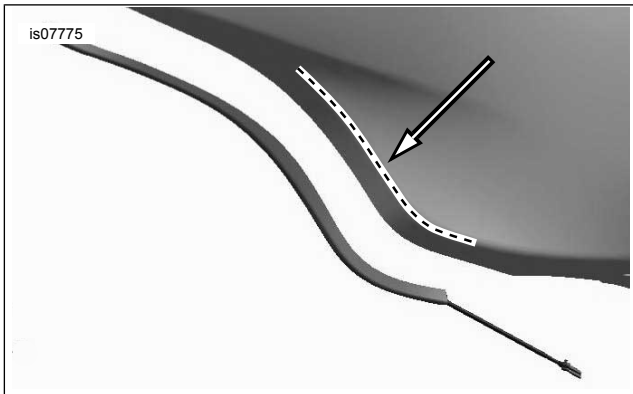

Figure 2. Fairing Edge Lights, Placement
- See Figure 2. With the wiring exiting the lower end of the strip, position a light strip on the fairing as shown. Do not remove the adhesive backing at this time.